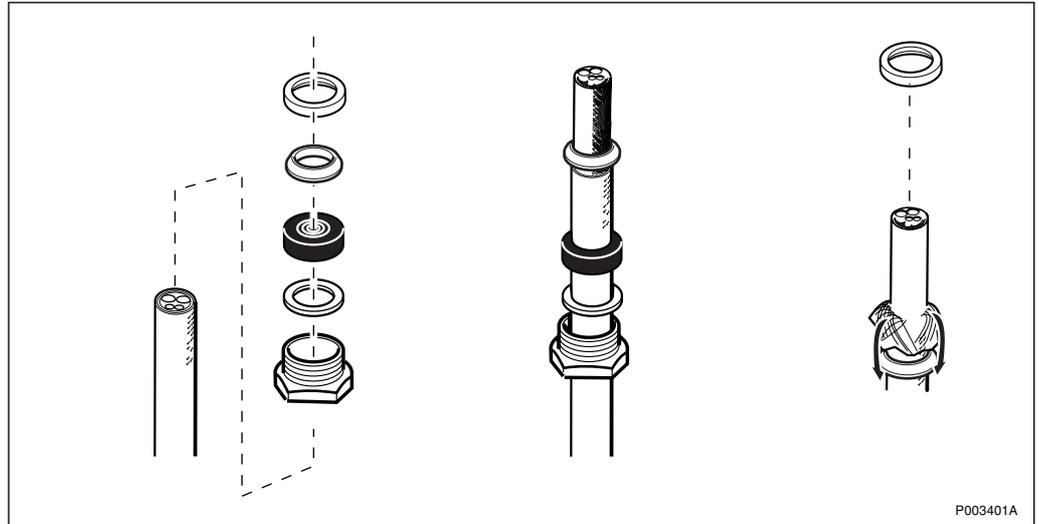

Figure 288 Earthing the cable inlet
4. Dismantle the network PCM cable and mount the cable inlet, *see Figure 288 on page 237*.